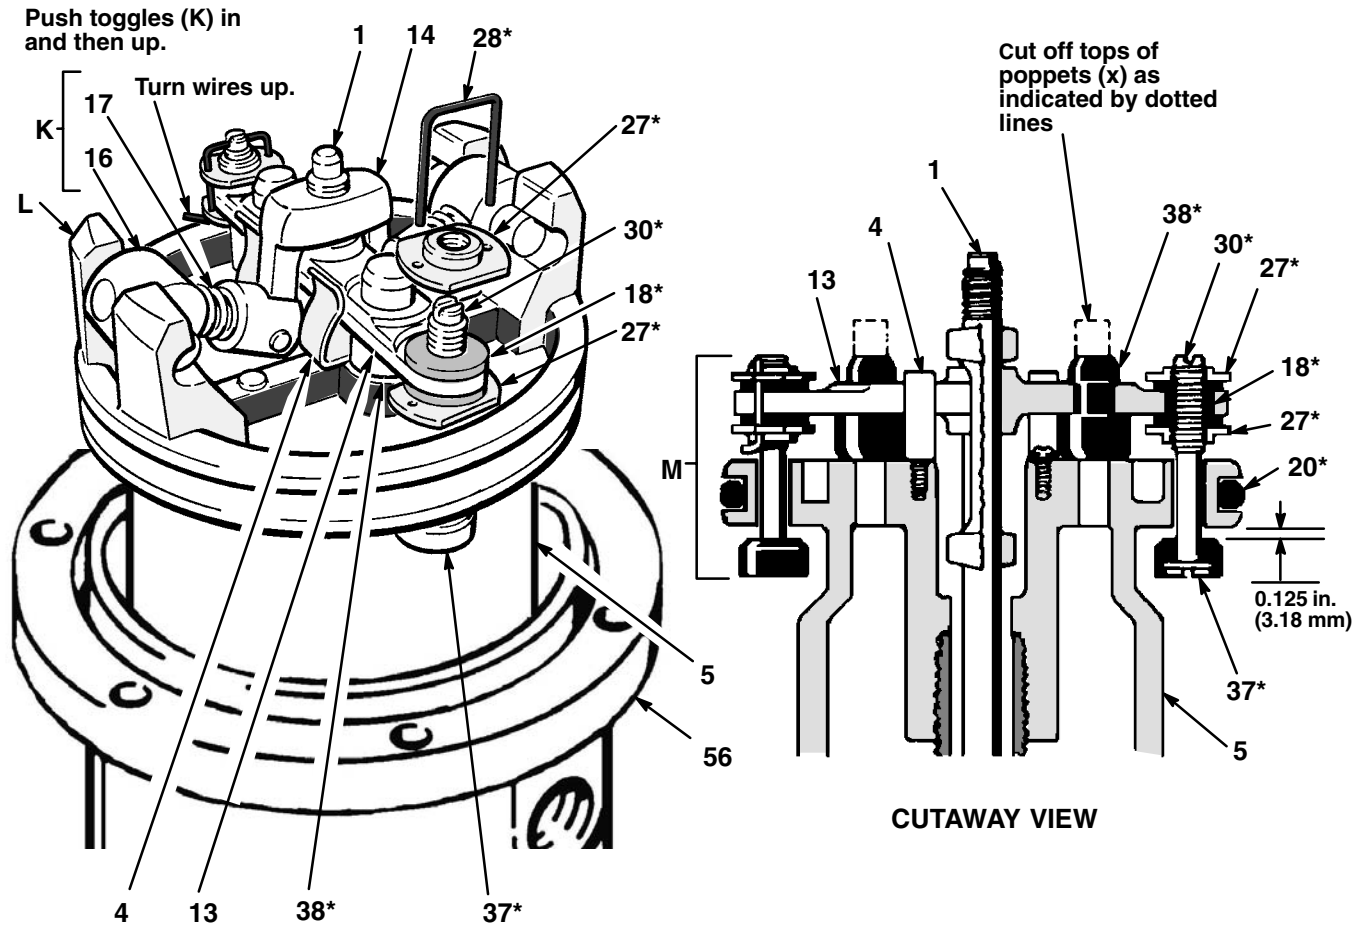

Fig. 5
Always keep fingers clear of the toggle assemblies (K), to avoid pinching or amputating them. See Fig. 5.
5. Use a screwdriver to push down on the trip rod yoke (14) and snap the toggle assemblies (K) down. See Fig. 5. Remove the lockwires (28*) from the adjusting nuts (27*) of the transfer valves (M). Screw the top adjusting nuts (27*) off. Screw the valve stems (30*) out of the grommets (18*) and lower adjusting nuts (27*). Take the valve poppets (37*) off the stems and squeeze them firmly to check for cracks.
6. Grip the toggle rockers (16) with a pliers. Compress the springs (17) and swing the toggle assembly (K) up and away from the piston lugs (L), and remove the parts. Check that the valve actuator (13) is supported by the spring clips (4), but slides easily into them. See Fig. 5.
7. Remove the trip rod yoke (14), valve actuator (13) and trip rod (1). Check the exhaust valve poppets (38*) for cracks.
4. Be sure the o-rings are in place. Slide the piston rod down through the throat bearing and lower the piston (5) into the air motor base (56).
5. Pull the exhaust valve poppets (38*) into the valve actuator (13) and clip off the top part shown with dotted lines. See Fig. 5.
6. Install the transfer valve poppets (37*) onto the valve stems (30*), then reassemble the valve stems (30*), bottom adjusting nuts (27*), grommets (18*), and top adjusting nuts (27*) on the piston (5). Assemble the trip rod (1), valve actuator (13), trip rod yoke (14) and toggle assemblies (K) on the piston. See Fig. 5.
7. Before installing the lockwires (28*) in the adjusting nuts (27*), use the special gauge 171818 to adjust the transfer valve (M) so there is 0.125 in. (3.68 mm) clearance between the poppets (37*) and the piston (5) when the toggle assemblies are in the *down* position. See Fig. 5.
8. Snap the toggle assemblies (K) to the *up* position. Reinstall the cylinder (32) and cap nut (31). Reassemble the air motor to the displacement pump.